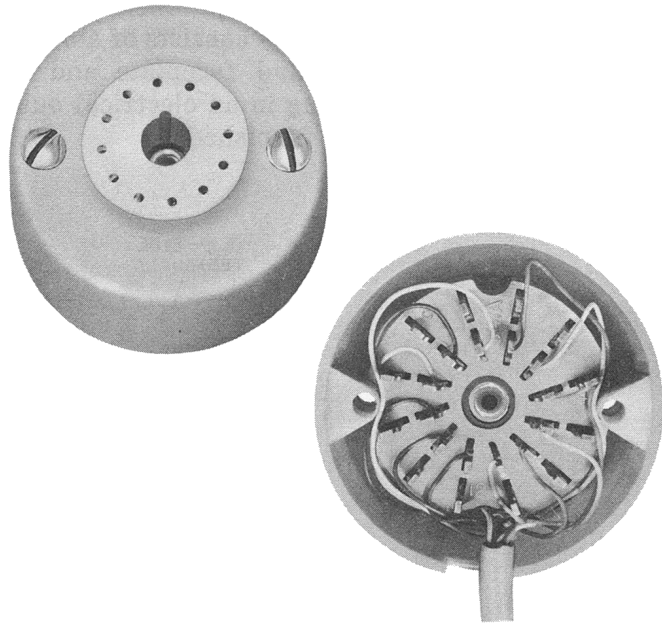

Fig. 20 — 551A Jack
2.20 The 551A jack (Fig. 20) is a one-piece, 12-contact, nonflush-type jack intended for baseboard mounting. Mounting hardware is furnished.